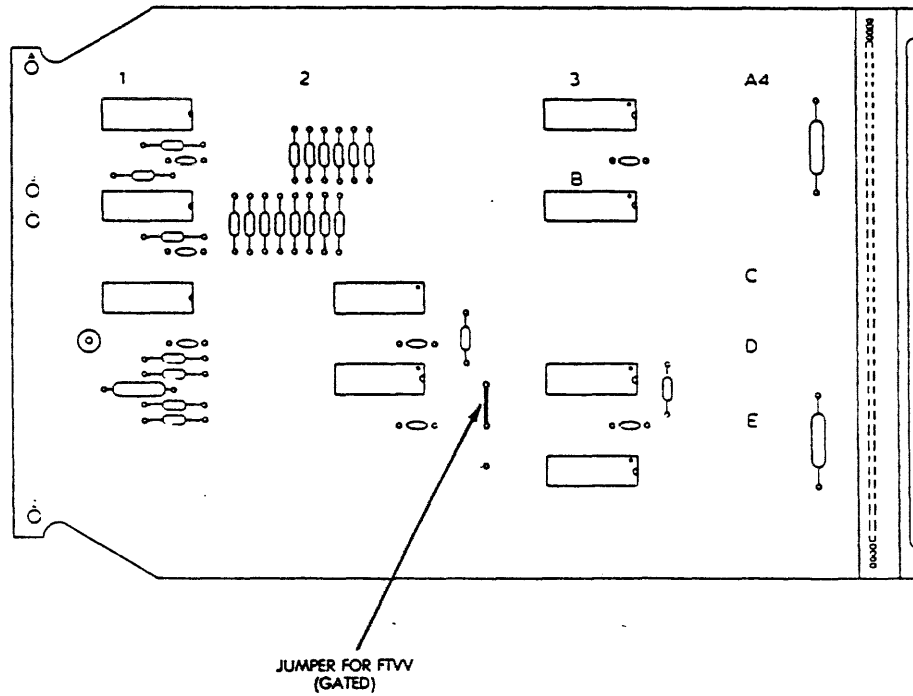

Figure 9-5. TVV Card Jumpered for A-Cable Gated
- A-cable gated** The jumper on the __TVV card (slot B01) must be in the gated position. The card should be identified as FTVV. Dual channel drives have a second card in slot B03 which must be similarly jumpered and identified (see Figure 9-5).